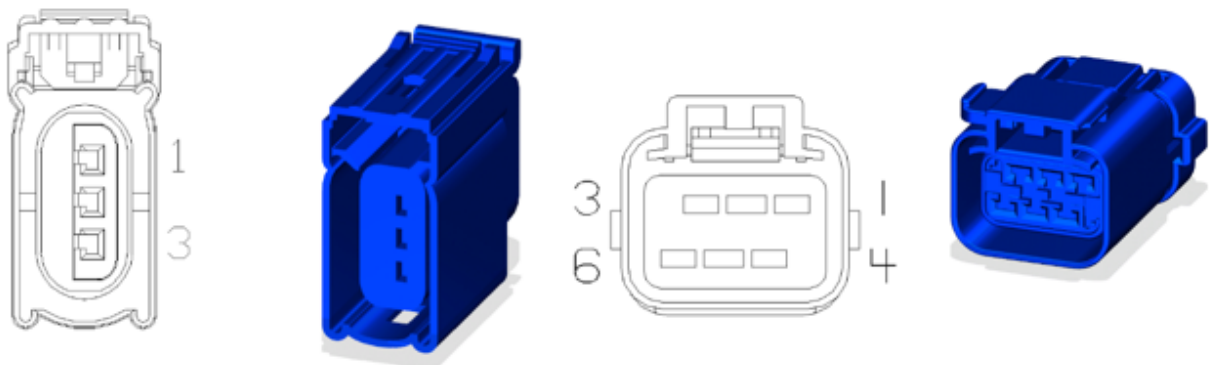

Figure 19 Left: Base Tail Light Right: Premium Tail Light
- A. Determine the style of connector you have by pulling out the tail lights and examining the headlight plugs. Notice the color of the wires in positions 2 and 3 for base models, or 1 and 6 for premium models (fig. 19).